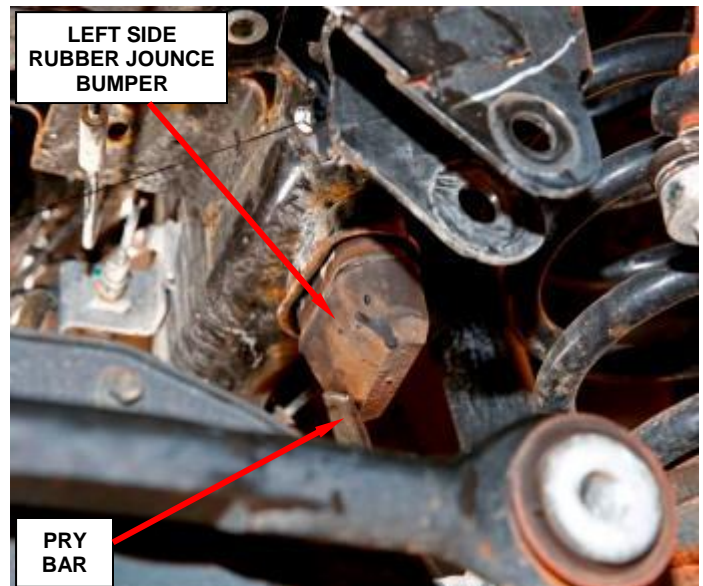

Figure 20 – Remove Left Rubber Jounce Bumper
36. Remove and save the left side rubber jounce bumper (Figure 20).